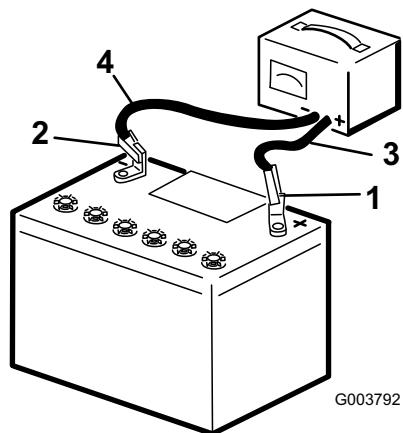

Figure 39
3. Charge the battery for 10 to 15 minutes at 25 to 30 amps or 30 minutes at 4 to 6 amps (Figure 39). Do not overcharge the battery.
disconnect the charger leads from the battery posts (Figure 39).